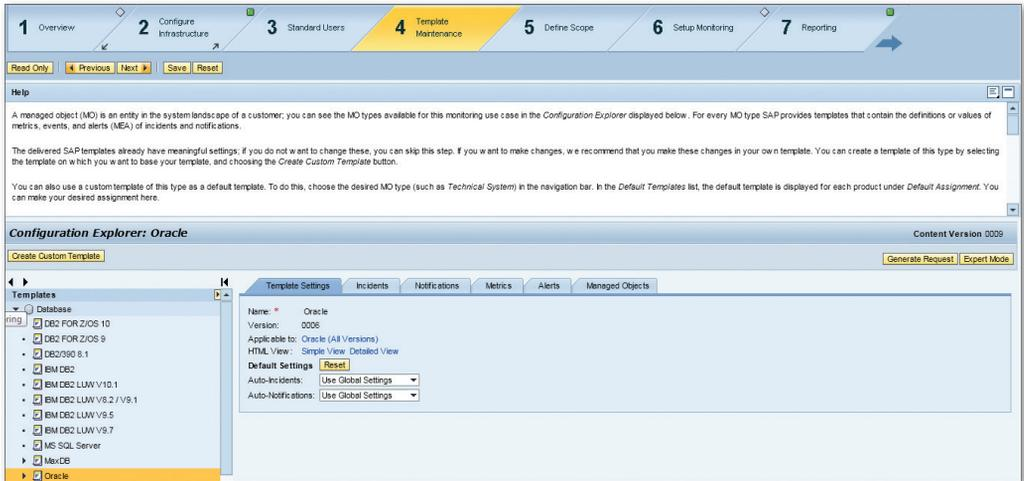

Figure 5.37 Creating a Template
1. Go to the navigation bar and select the template you want to use as a basis for your customer template. For example, select DATABASE as a managed object and ORACLE as a product (see Figure 5.37).